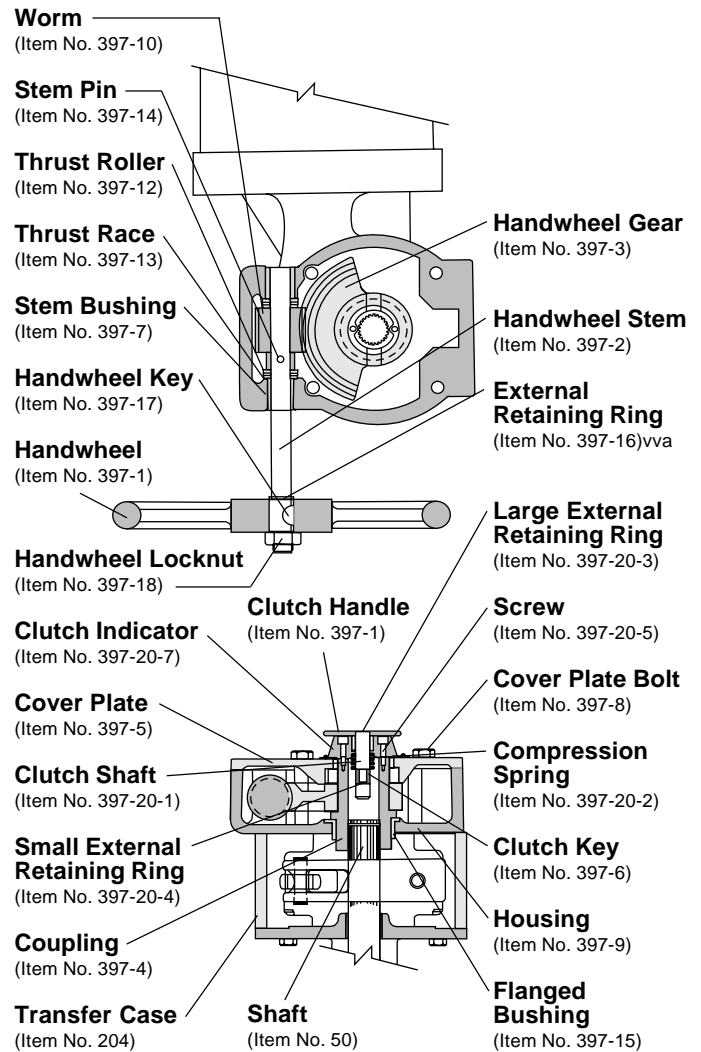

Figure 5: Declutchable Handwheel
To disassemble the declutchable handwheel on rotary actuators, refer to Figure 5:
To reassemble the declutchable handwheel on rotary actuators, refer to Figure 5:
5. Thoroughly lubricate the worm and handwheel gear. Holding the worm engaged in the gear (as shown in Figure 5), slide the handwheel gear onto the coupling.